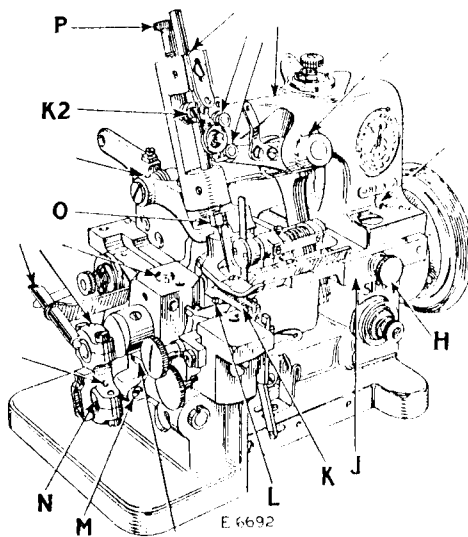
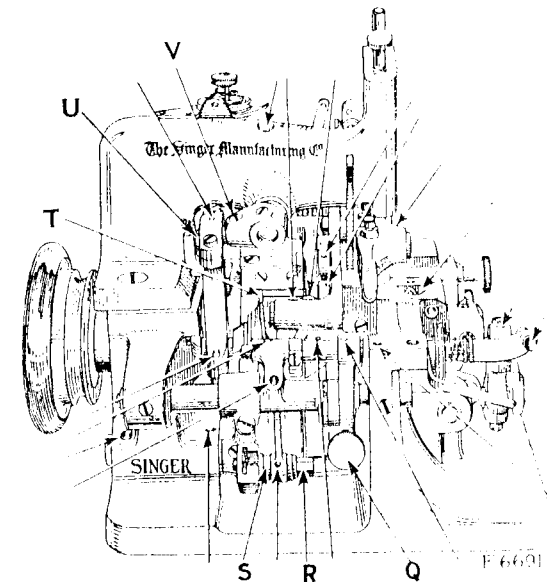
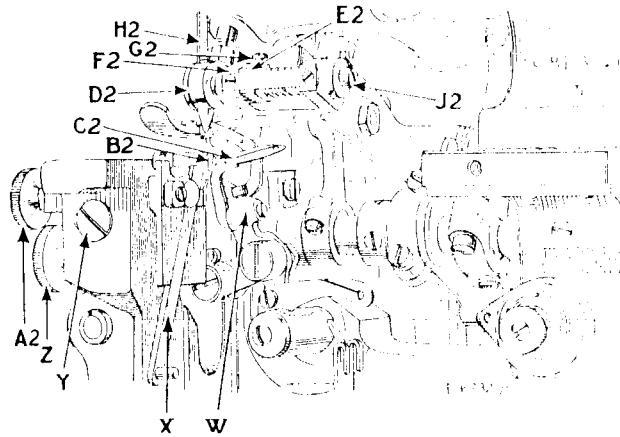

Fig. 2. Oiling Points at the Front of the Machine.
Fig. 3. Oiling Points at the Back of the Machine.
Fig. 8.
Oil should be applied to all oil holes marked "Oil" and to all oiling places indicated by arrows in Figs. 2 and 3.
Loosen the clamping nut (O, Fig. 2) at the lower end of the needle bar and put the needle up into the bar as far as it will go, with the ground out side at the back, or farthest from you. Then tighten the clamping nut (O).
The length of stitch is regulated by the feed regulator (S, Fig. 3). With the wrench provided, loosen the screw stud (R, Fig. 3) and move the regulator backward or forward until the indicator (T, Fig. 3) points to the number, on the indicator plate, designating the required stitch. Then securely tighten the screw stud (R).
The pressure on the material is regulated by means of the thumb screw (P, Fig. 2). To increase the pressure, turn this thumb screw downward. To decrease the pressure, turn the thumb screw upward.
Turn the balance wheel over from you until the needle bar has risen $\frac{3}{16}$ inch from its lowest position. The point of the left hand looper, on its loop taking stroke, should then be at the centre of the needle, and the eye of the needle should be about $\frac{1}{16}$ inch below the looper point. If the needle bar is not at the correct height, loosen the pinch screw (K2, Fig. 2) and move the needle bar upward or downward as required, then securely tighten the pinch screw (K2).
A variation in the amount of needle bar stroke can be obtained by adjusting the ball stud (U, Fig. 3). To lengthen the stroke, loosen the set screw (V, Fig. 3) and move the ball stud inward or toward the crank. To shorten the stroke of the needle bar, move the ball stud (U) outward or away from the crank, then securely tighten the set screw (V).
The left hand looper (C2, Fig. 8) should be set in the looper carrier (W, Fig. 8) so that the point of the looper on its loop taking stroke just brushes the needle. The point of the right hand looper or spreader should pass at the recess back of the left hand looper eye as closely as possible without touching it.
A variation in the amount of the looper motion can be obtained by adjusting the ball stud (N, Fig. 2). To increase this motion, loosen the set screw (M, Fig. 2) and move the ball stud (N, Fig. 2) inward or toward the crank. To decrease the motion, move the ball stud outward or away from the crank. After the desired motion has been obtained, securely tighten the set screw (M, Fig. 2).
The lower knife (X, Fig. 8) should always be fastened in position when removing or replacing the upper knife. The lower knife is adjustable
To take out the lower knife (X, Fig. 8), loosen the thumb screw (A2, Fig. 8) and press the upper knife holder (D2, Fig. 8) toward the balance wheel, then draw the knife out downwardly. To replace the lower knife, have the presser foot and feed down, press the upper knife holder toward the balance wheel, and push the lower knife upwardly so as to touch the presser foot without lifting it, or so that it is just flush with the top of the throat plate, then tighten the thumb screw (A2, Fig. 8). To adjust the trimmer sidewise, loosen the thumb screw (H, Fig. 2) and move the extension bracket (J, Fig. 2) to the right or away from the upper knife. Loosen the screw (Y, Fig. 8) and turn the thumb screw (Z, Fig. 8) inward or outward until the trimmer is in the desired position, then securely tighten the screw (Y). Move the extension bracket (J, Fig. 2) back toward the upper knife, leaving just enough clearance between the upper knife and the bracket so as to allow free movement of the upper knife, then tighten the thumb screw (H, Fig. 2).
To remove the upper knife (H2, Fig. 8), loosen the screw (J2, Fig. 8) at the end of the knife holder, press the knife holder (D2) toward the balance wheel and remove the knife. When replacing the knife, have the knife holder in its lowest position and pressed toward the balance wheel, insert the knife and set it so that its cutting edge is just below the cutting edge of the lower knife, then tighten the clamping screw (J2).
To adjust the tension on the upper knife, loosen the set screw (G2, Fig. 8) and move the knife holder guide (E2, Fig. 8) toward the balance wheel until the distance between the knife lever (F2, Fig. 8) and the guide (E2, Fig. 8) is equal to the thickness of the upper knife when the knives are in contact with each other, then securely tighten the set screw (G2).
The feed dog (K, Fig. 2) should be set so that when it is raised to its highest point by the feed lifting eccentric the full depth of the teeth will project above the throat plate. The feed dog can be set at the desired height after loosening the screw (L, Fig. 2). When the feed dog is set at the required height, securely tighten the screw (L).
When very elastic materials are to be sewn on machines 81K3, 81K4, 81K6, 81K7, 81K20 or 81K21, the back feed dog (B2, Fig. 8) should remain in its raised position only long enough to permit the work to come out flat. To adjust the back feed (B2), turn the adjusting thumb screw (Q, Fig. 3) inward to lengthen its duration of feed and outward to shorten its duration of feed.